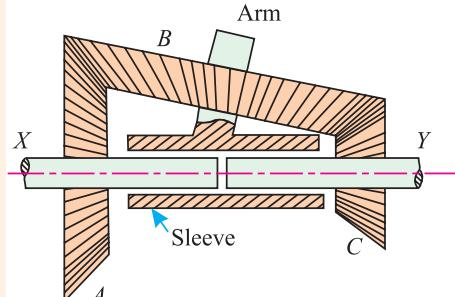

Fig. 34.16.
**Example 34.9.** An epicyclic gear train consists of bevel wheel as shown in Fig. 34.16. The wheel A, which is keyed to driving shaft X, has 40 teeth and meshes with the wheel B (50 teeth) which in turn meshes with the wheel C having 20 teeth. The wheel C is keyed to driven shaft Y.